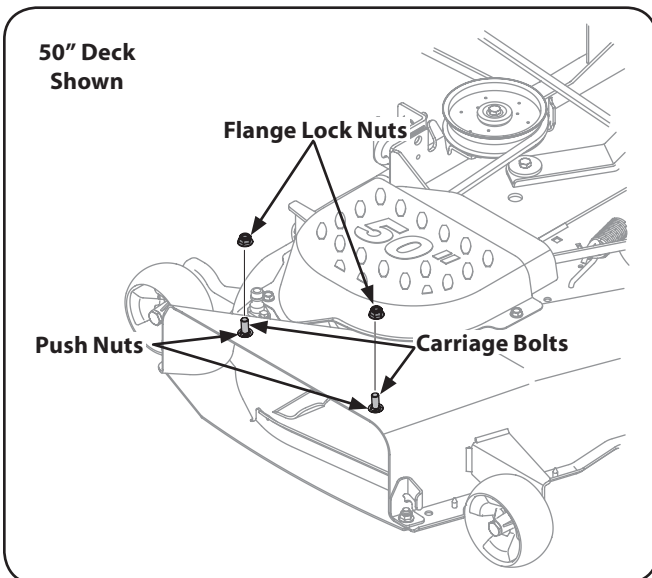

Figure 3-7
2. Remove the flange lock nuts from the deck. Do not remove the push nuts or carriage bolts, leaving them in place will aid in installing the chute. See Figure 3-7.